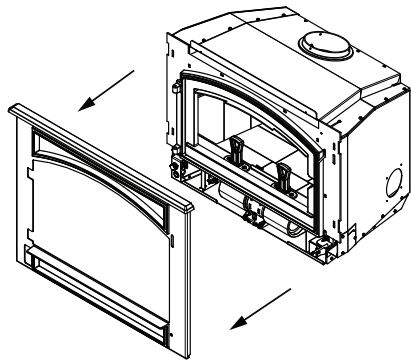

Figure 20.3
3. Remove face by lifting up then out away from appliance and set aside laying it onto a protective surface (Figure 20.3).
- 2. Lift surround assembly to front of appliance (Figure 20.3 on page 20).